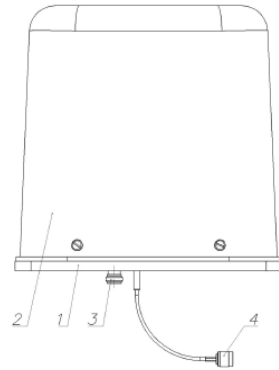

Fig. 1
- 5.1. The antenna “AL1/160/N” is the non-symmetrical quarter-wavelength folded monopole with the capacitive load structurally contained the base 1, the protective radio-transparent radome 2 and the flange female connector 3 (Fig. 1). The geometric shortening of the antenna is achieved using the additional linear radiating element with distributed capacity and the additional radiating cylinder.